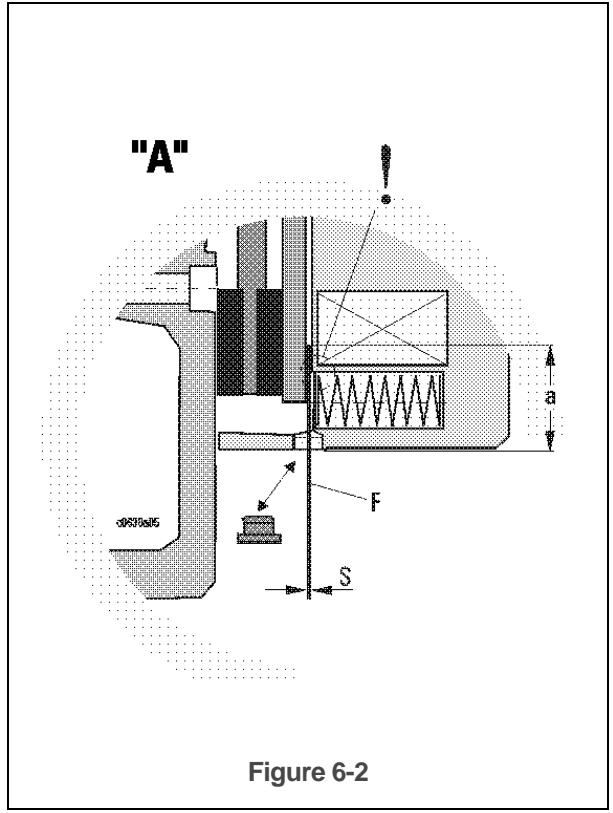

Figure 6-2
- 3) Measure air gap (S) with feeler gauge (F). When measuring, ensure that the feeler gauge is pushed in at least as far as depth "a" and does not catch on shoulder. See **Table 5-8** for max. permissible air gap (S). See **Figure 6-2**.
- 4) The brake is not adjustable. If the max. permissible air gap (S) has been reached, the brake disc (brake rotor) must be replaced. See **Figure 6-2**.